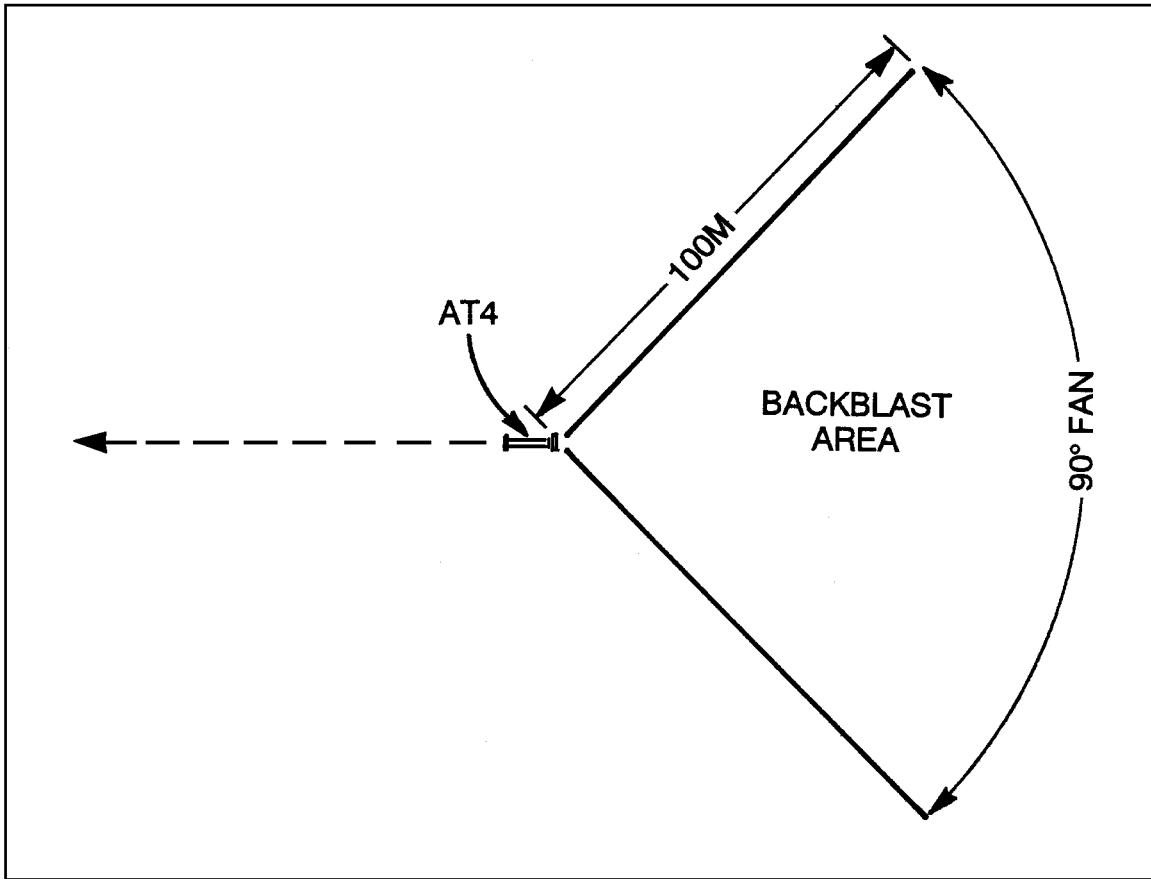

Figure A-2. M136 AT4 backblast area.
(2) **MI36 AT4.** Because the AT4 has a closed chamber, it has a slight recoil. When the weapon is fired, pressure builds up in the chamber and ruptures the baseplate. Once the baseplate ruptures, gasses exit from the back of the weapon, forming the backblast. The total backblast area extends 100 meters to the rear of the launcher in a 90-degree fan (Figure A-2, page A-2). During training, the *entire* backblast area should be marked off limits and kept clear of personnel and equipment. In combat, personnel may remain to the rear of the